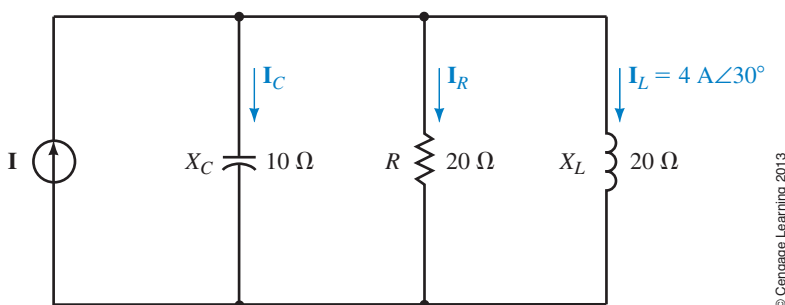

FIGURE 18-110
42. Given that $I_L = 4 \text{ A} \angle 30^\circ$ in the circuit of Figure 18-110, find the currents I , I_C , and I_R . Verify that Kirchhoff's current law applies for this circuit.